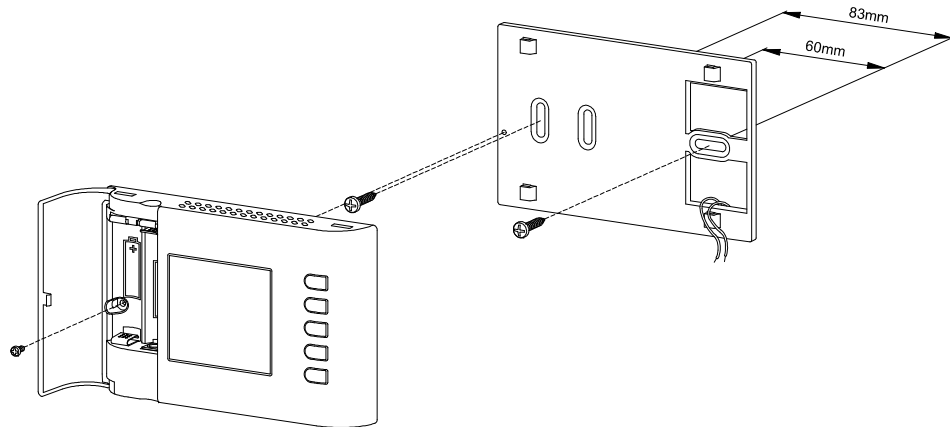
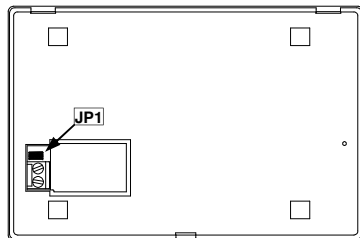
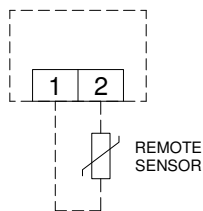

Fig. 2
Fig. 4
Fig. 5
4. Insert the wires through the rectangular opening in the wall plate (Fig. 2) following the connection diagram of Fig. 5, to electrically connect the possible remote probe. If necessary remove jumper **JP1** (Fig. 4), but before doing that read the "INSTALLER CONFIGURATION" paragraph.